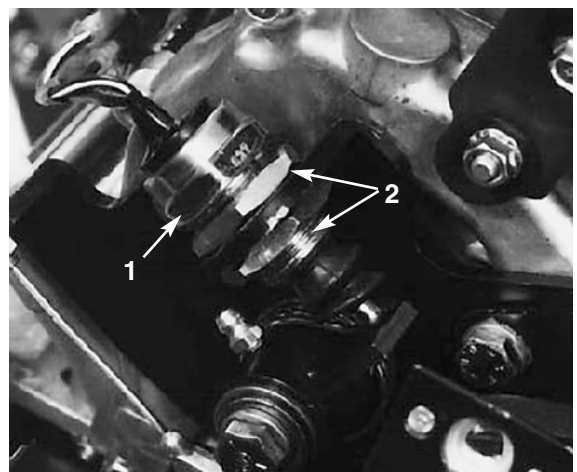

Figure 38
2. Loosen (2) switch mounting nuts (Fig. 38) and move the switch until the switch plunger is depressed $.4.57 \pm .1.5\text{mm}$ (switch closed).
- Using a 7/8" standard wrench, back out the spring tension screw, until the thrust washer is no longer tensioned against the bedbar (Fig. 38).